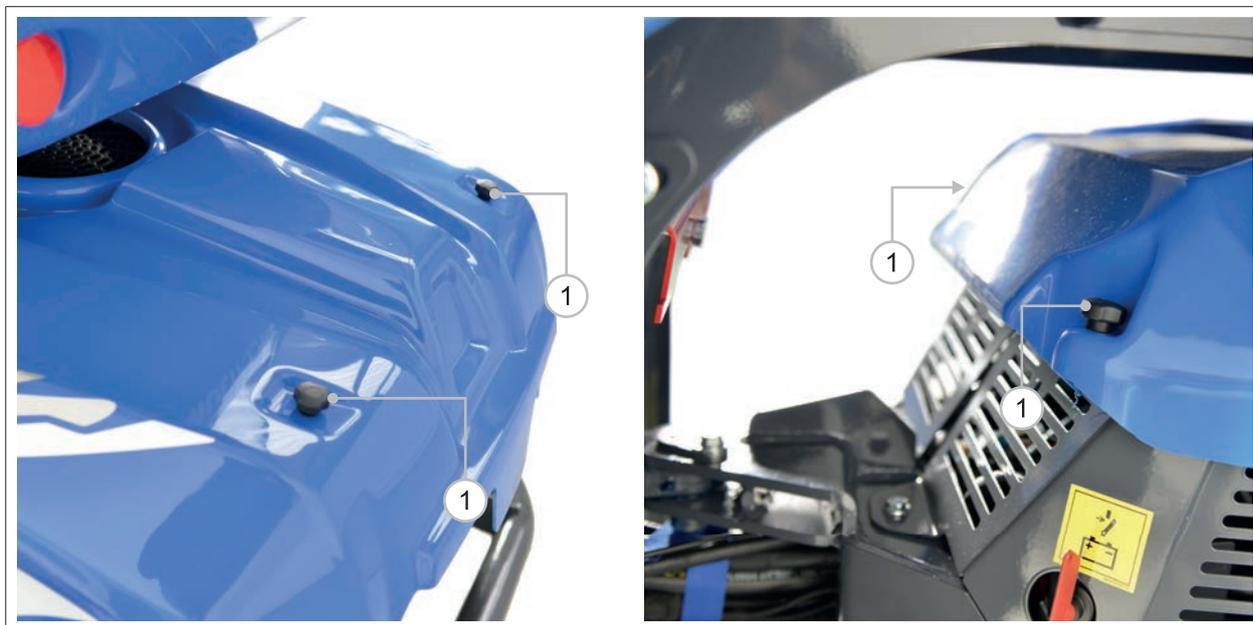

FIG. 32
- 2) Unscrew the four knob holding the engine hood (**FIG. 32 - Ref. 1**).